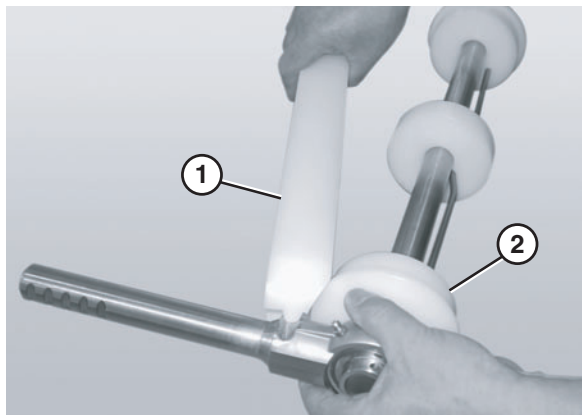

Figure 76
3. Attach the flanged pucks (**Figure 76, item 2**) and bearing shaft assemblies to the idler shaft.
4. Attach the guard bar (**Figure 76, item 1**).